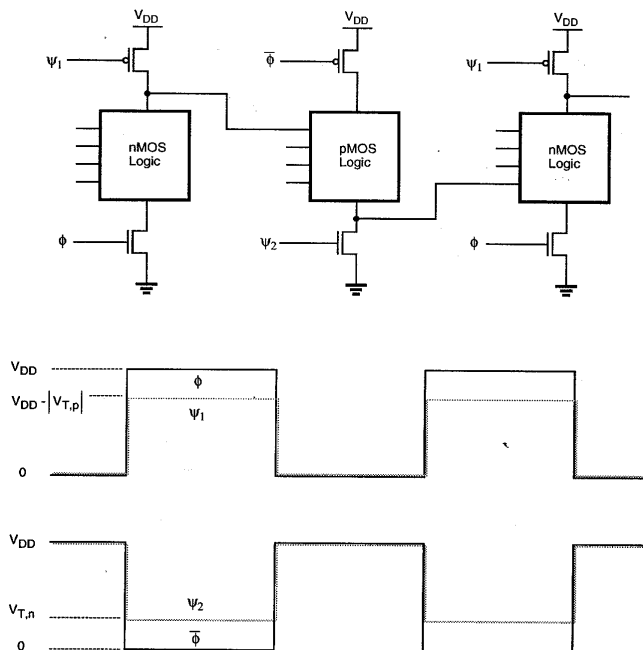

FIG. 3 Novel logic family
Consider the logic family shown in Figure 3.
a. Explain in a couple of sentences the advantage of using the clocking strategy shown in Figure 3.